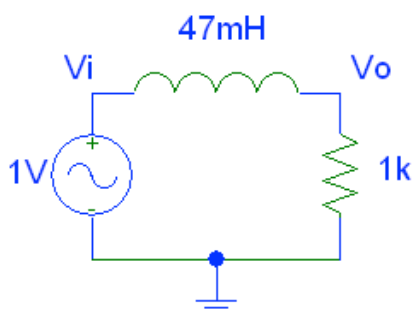

Figure 4: Second RL Network
2. Record the amplitude of the output voltage for the circuit shown in Figure 4, where $v_i(t) = \cos(\omega t)$, and f is the following three input voltage frequencies.